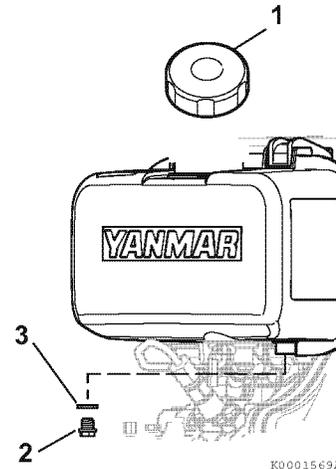

Figure 8
2. Remove the fuel cap (1, **Figure 8**).
3. Remove the fuel tank drain plug (2, **Figure 8**) and gasket (3, **Figure 8**) to drain the fuel.
9. Tighten the fuel tank drain plug (2, **Figure 8**) with new gasket (3, **Figure 8**).
10. Replace the fuel cap (1, **Figure 8**) and hand tighten. Overtightening the fuel cap will damage it. Refill fuel tank. *See Filling the Fuel Tank on page 21.*